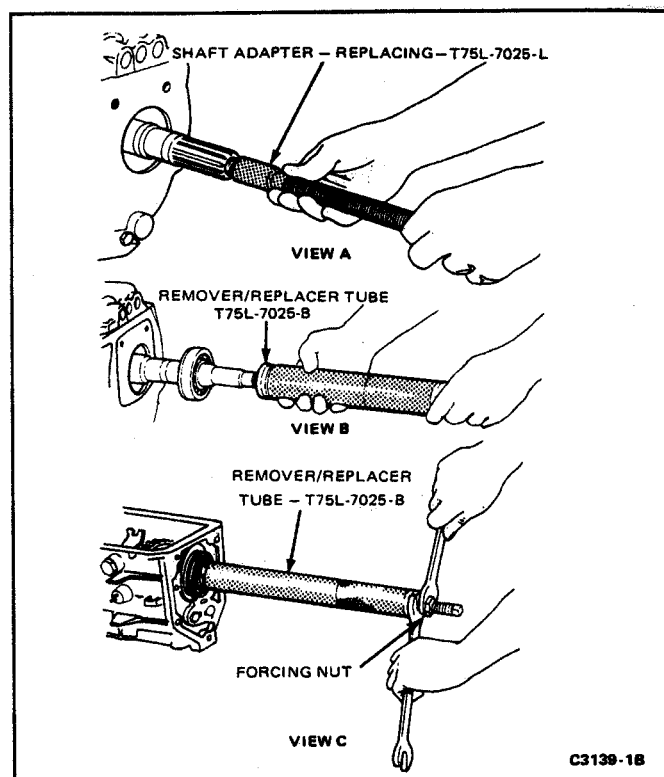

FIG. 12 Installing Output Shaft Bearing
11. Install the output shaft bearing using the tools, T75L-7025-B, L as shown in Fig. 12.